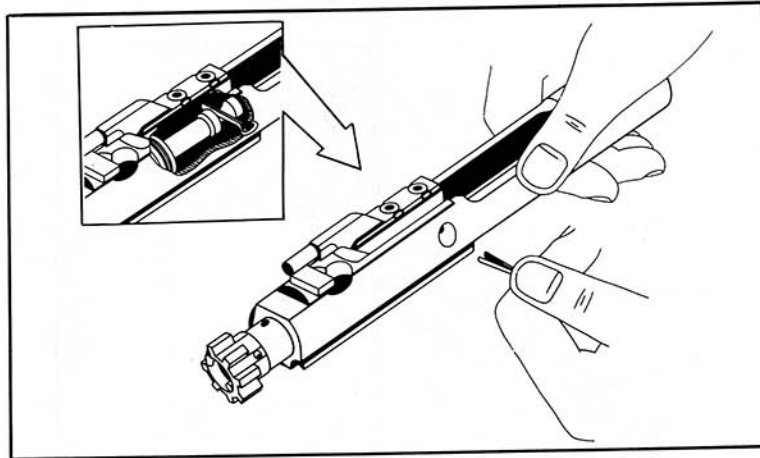

Figure 2-6 Proper Location of the Firing Pin Retaining Pin
- a. Assemble in the reverse order. See Figure 2-6 for the correct position of the firing pin retaining pin.